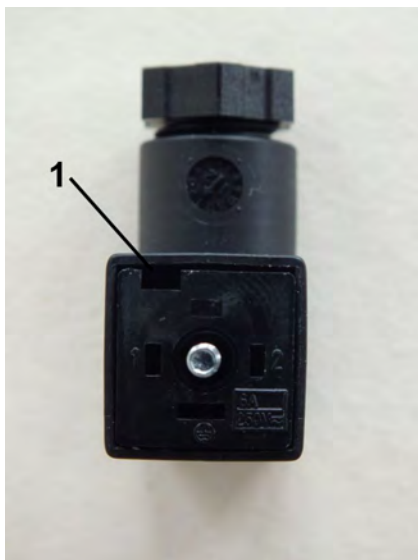

Fig. 22: Loosen inner section
3. ➤ Remove the plug insert from the plug by inserting a flat-bladed screwdriver into the slot (Fig. 22/1) and carefully pry out the inner section.
7. ➔ Position the plug insert (Fig. 22/1) back onto the plug and push until it locks.